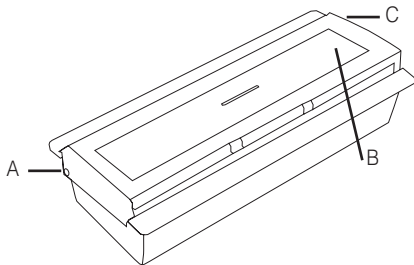

Figure 1: Doorbell-pushbutton
- Place the doorbell pushbutton in such a way on the work surface that the two rotation axes of the transparent plastic face are at the rear (fig. 1 A and C).
- b) Using a pointed object (e.g. biro) carefully press now the small pin on the left side (fig. 1 A).
- c) Now you should be able to push up and remove the transparent plastic face (fig. 1 A).
- d) You can now open the small screw (fig. 1 B) using a small Phillips screwdriver and remove the front of the doorbell pushbutton behind which there is the PCB with the battery.
- b) Before assembling ensure that the small screw (fig. 1 B) can grip at the right spot. If required turn one part of the housing by 180°. Please make sure that the rubber gasket sits correctly within the housing.